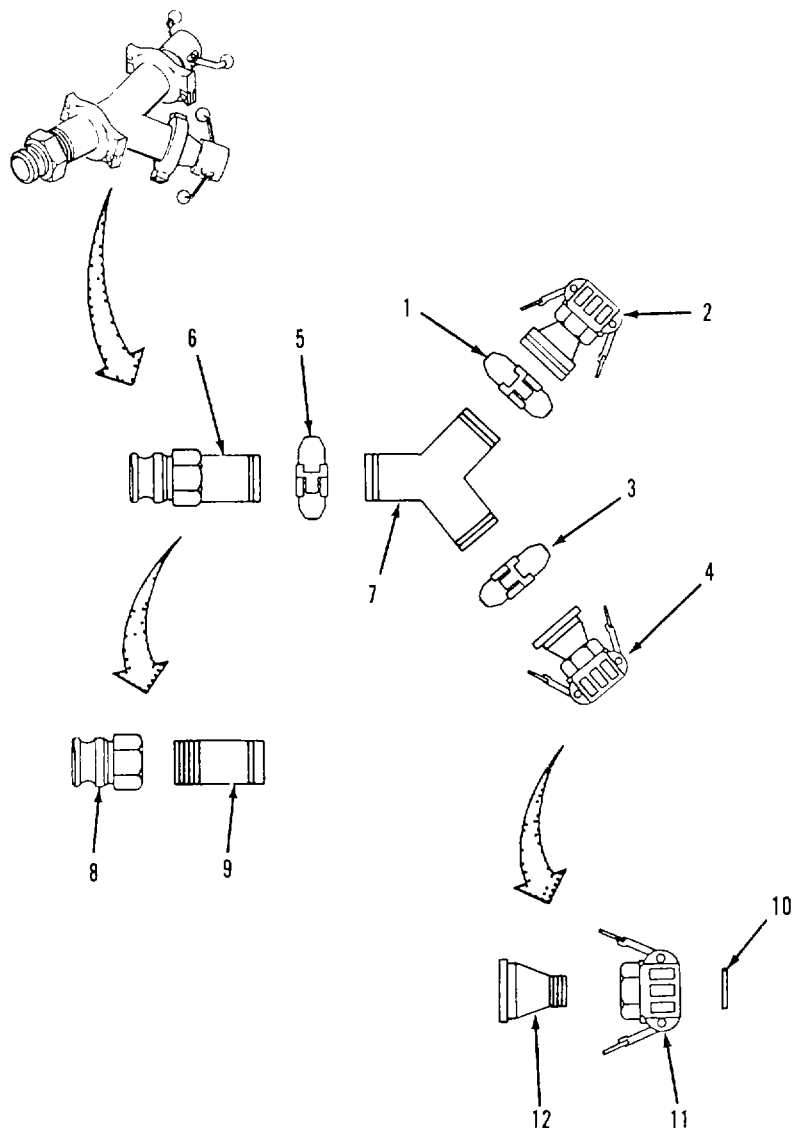

Figure 4-24. Y-Connector Assembly.
- (1) Inspect male coupling (8), female couplings (11), nipple (9) and y fitting (7) for cracks and corrosion.
- (2) Inspect nipple (9), male coupling (8) and reducers (12) for damaged threads.
- (3) Inspect nipple (9), y fitting (7) and reducers (12) for damaged coupling clamp sealing surfaces.
- e. Assembly. Refer to figure 4-24.